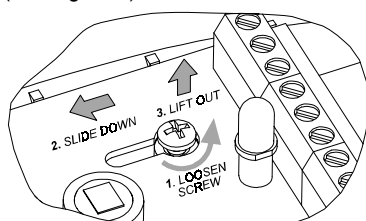

Figure 4. PCB Removal
B. Loosen the vertical adjustment screw, slide the PCB down and remove it via the "keyhole" (see Figure 4).
- B. Remove the PCB (see Figure 4) and put it temporarily aside.